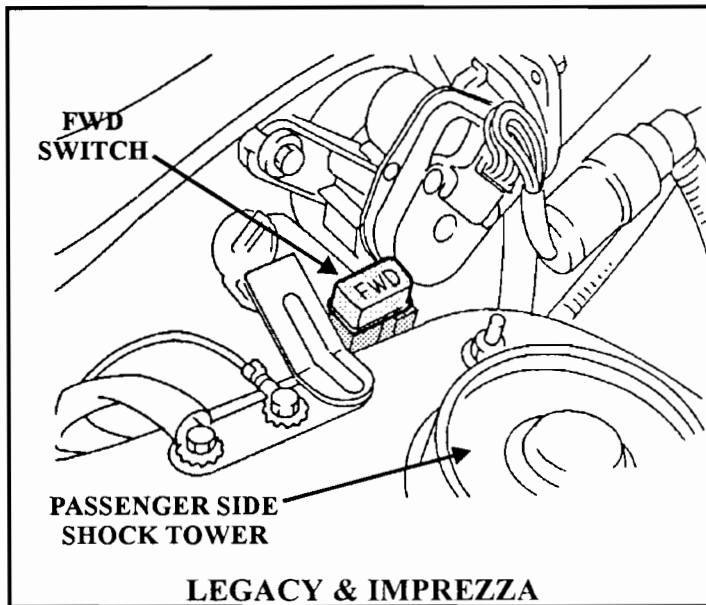
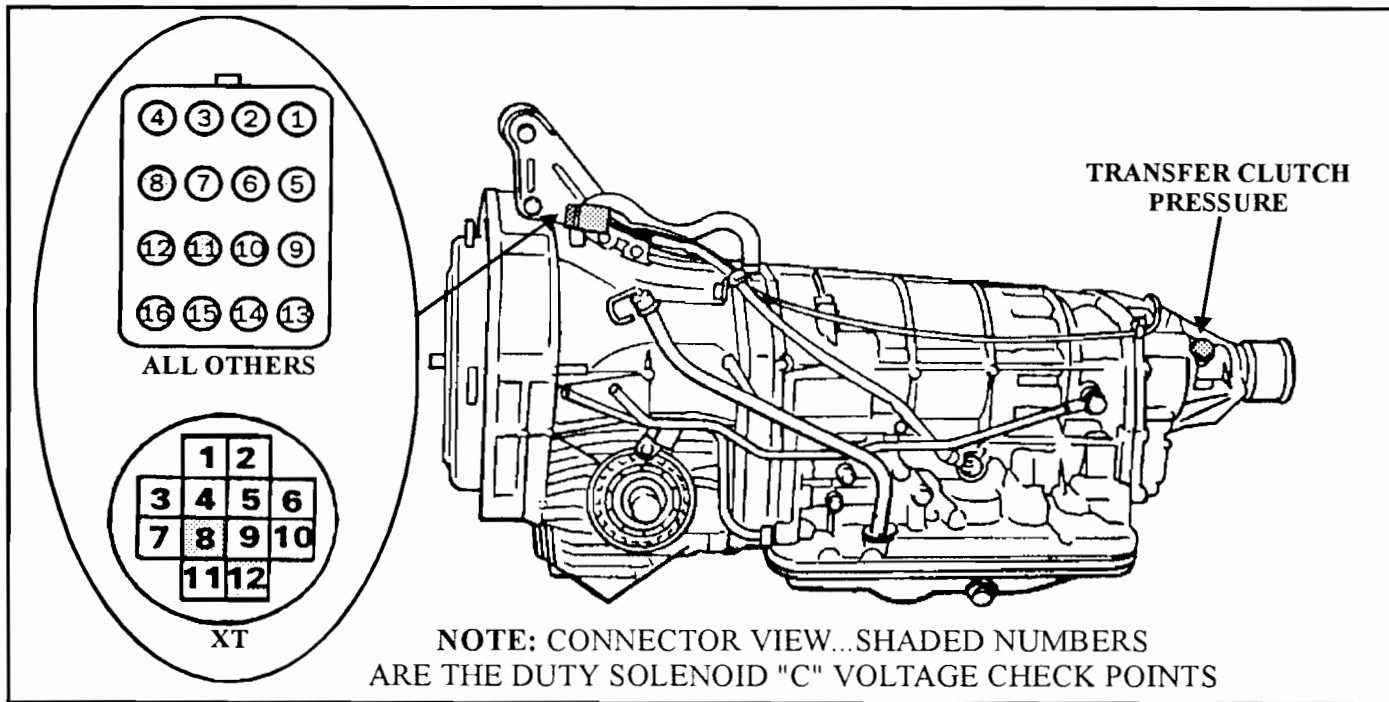

Figure 77
Figure 80
- STEP 2:** Locate the FWD Switch under the hood (Refer to figures 77, 78 and 79) and plug the spare fuse into it. This will turn the transfer clutch off. If tight corner braking still exists, check transfer clutch pressure and voltage (Refer to figure 80).
- STEP 3:** If voltage and pressure respond to throttle opening as per the chart in figure 80, the transfer clutch may be stuck on due to severe clutch damage.